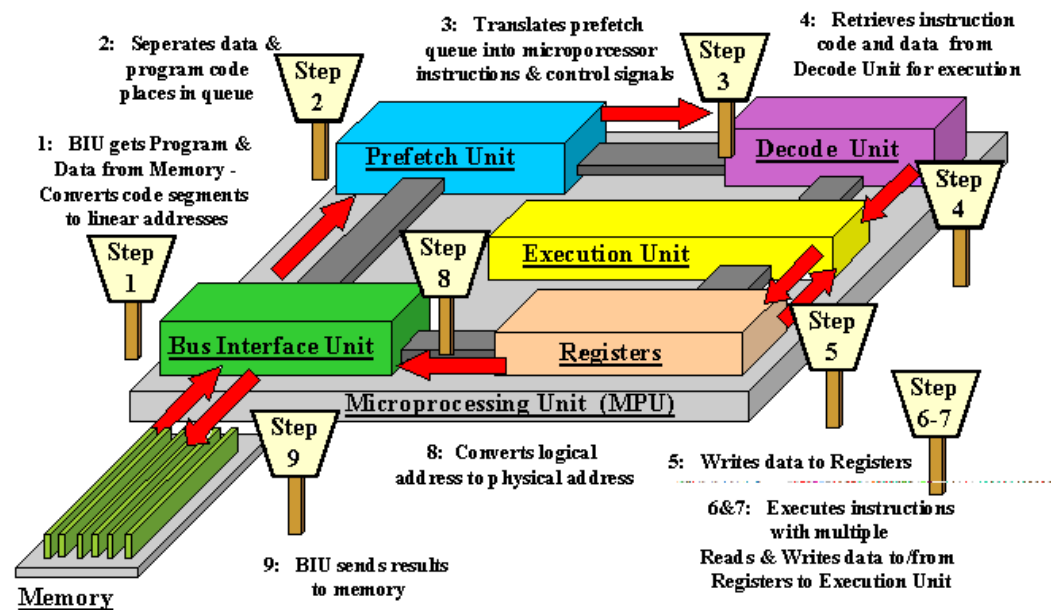

Figure 11 The MPU Function Flow
3. The Input & Output Blocks (IOB); User-configurable input/output blocks provide the interface between outside world and the internal logic. (Green blocks in Figure 11).